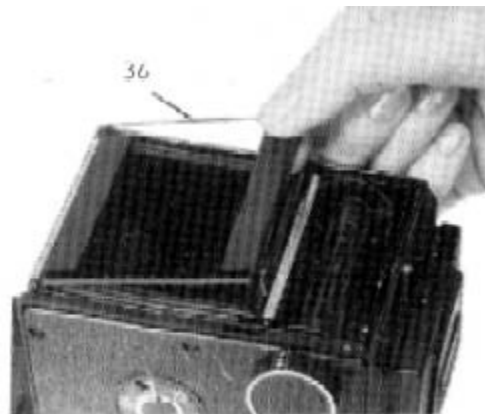

Fig. 8
For shooting 4.5 \* 6 cm pictures, put limiting frame (36) [Fig.8] on the film gate.